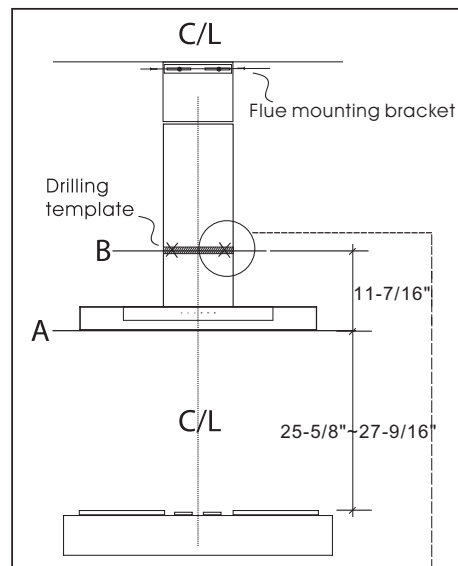

Fig. 4-1
6. Mark a line "B"(11-7/16" from a line "A"), (Fig. 4-1)